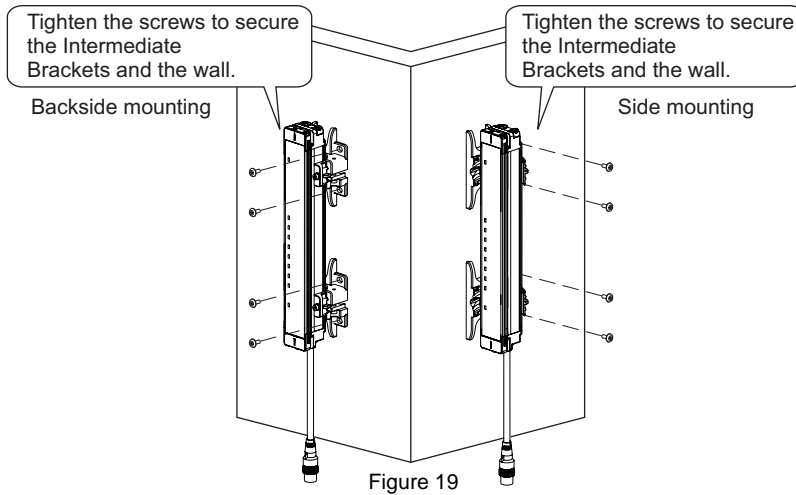

Figure 19
- Tighten the screws that fix the Intermediate Bracket and the wall. (Figure 19)